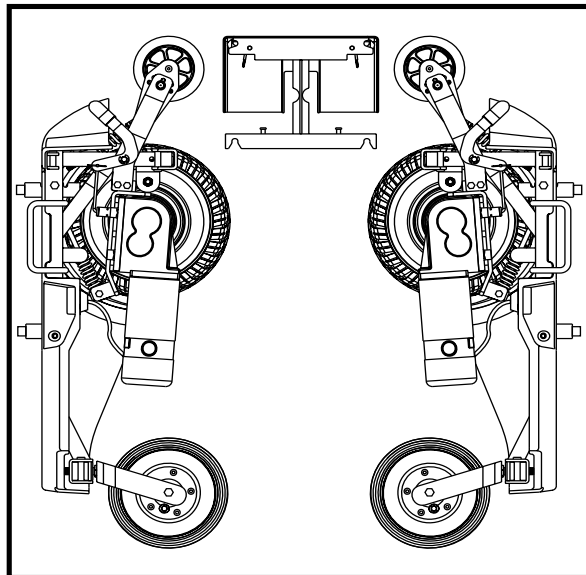

Figure 19. Frame Assembly Position
1. Place the three frame assemblies next to each other as shown in figure 19.